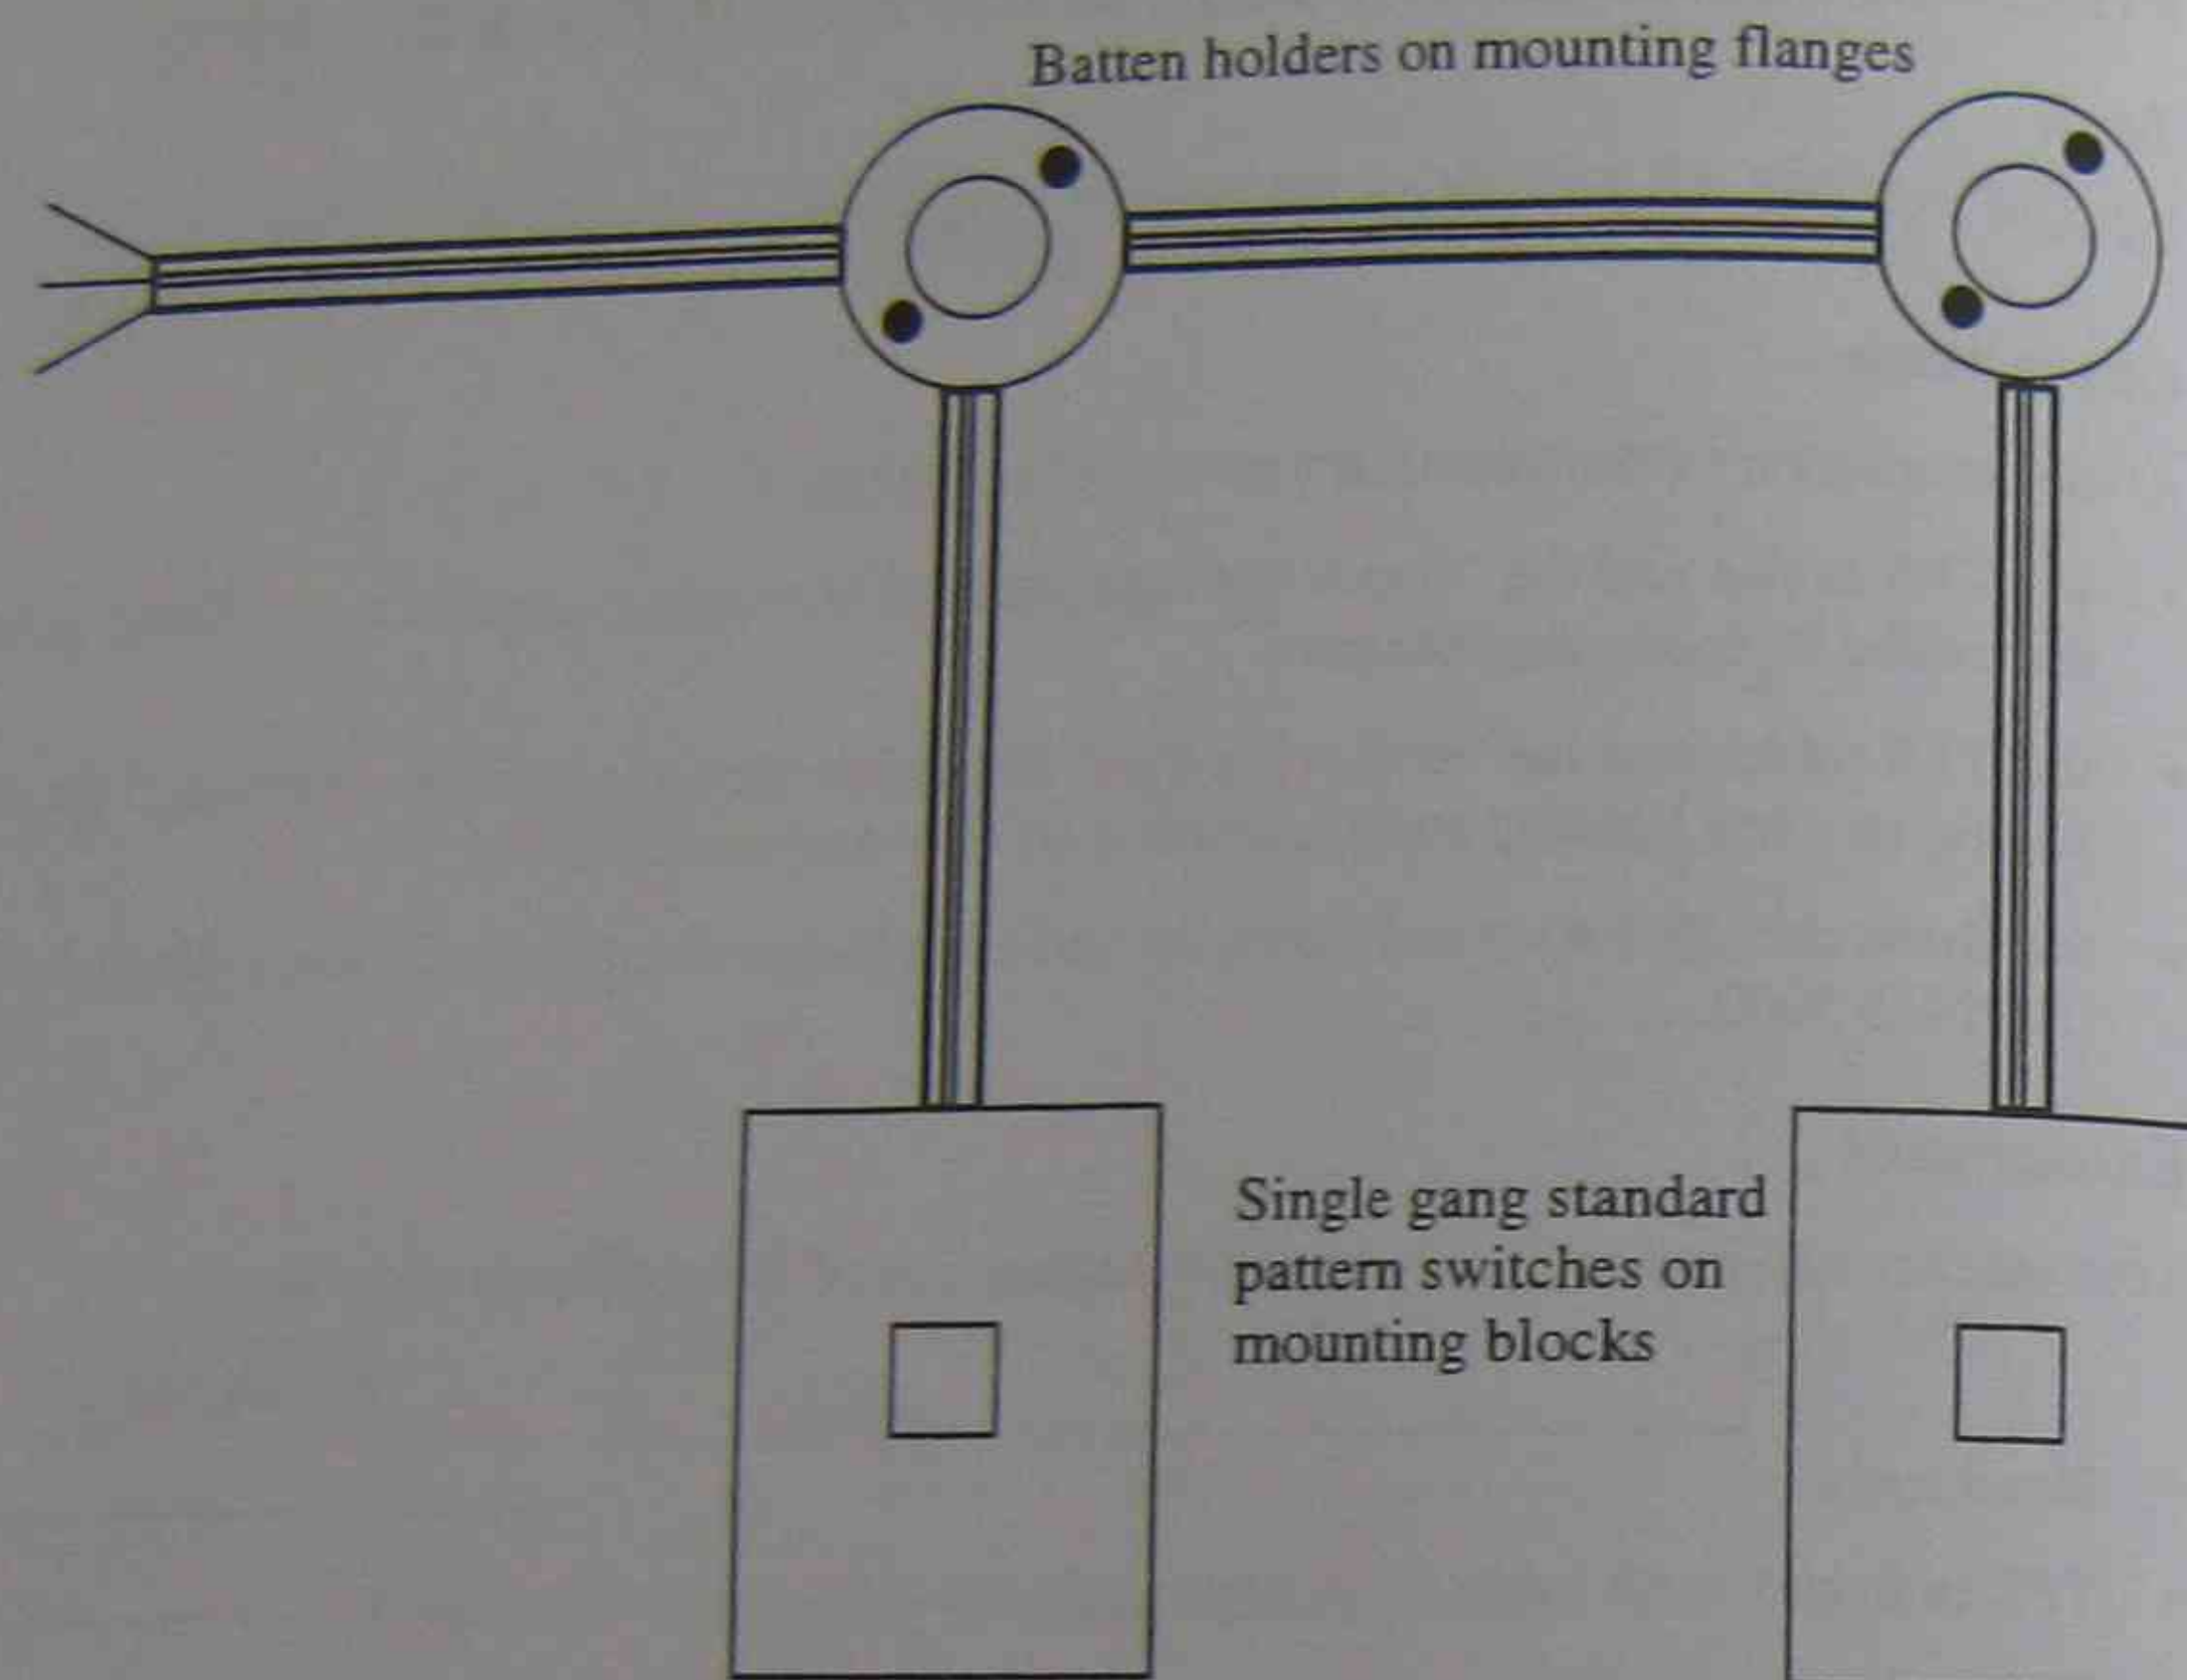

Figure 10 Equipment and cable layout
2. The drawing of Figure 10 shows the layout of the circuit being constructed. Obtain the necessary equipment using the diagram and parts list as a guide.